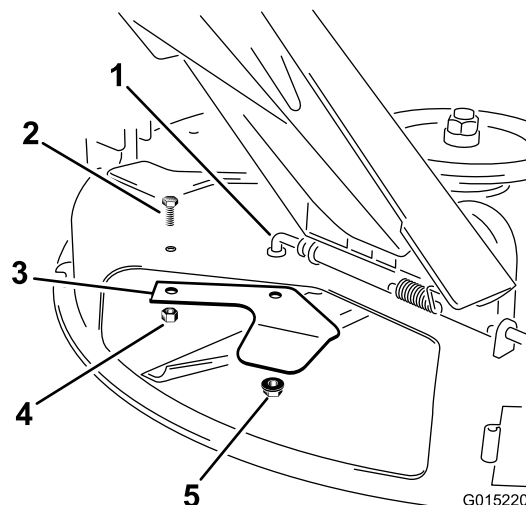

Figure 1
4. Remove the lock nuts and bolt securing the cutoff baffle to the underside of the deck (Figure 1). Retain all parts and fasteners.
5. Reaching inside the side-discharge opening, remove the kicker and set it and the long bolt aside for future use. Keep the lock nut for use in the next step (Figure 1).